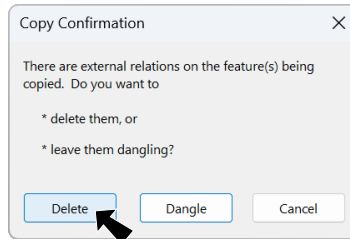

Fig. 18
Step 4. In the Copy Confirmation dialog box click **Delete**, Fig. 18.